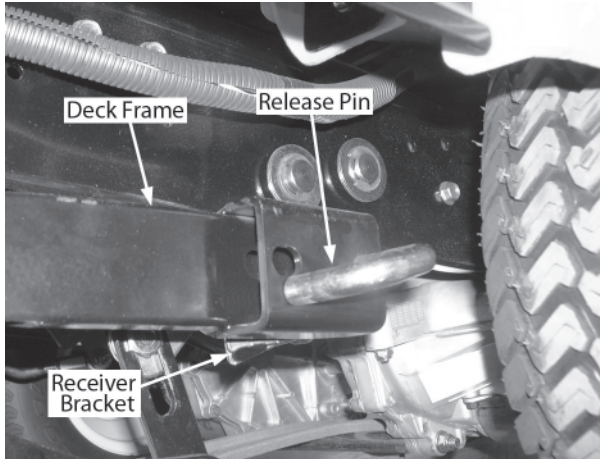

Figure 3-15
- From either side of the tractor, at the rear of the deck frame, pull the release pin outward to disengage the deck frame from the tractor. Turn the release pin slightly so that it is held outward in the disengaged position. See Figure 3-15.